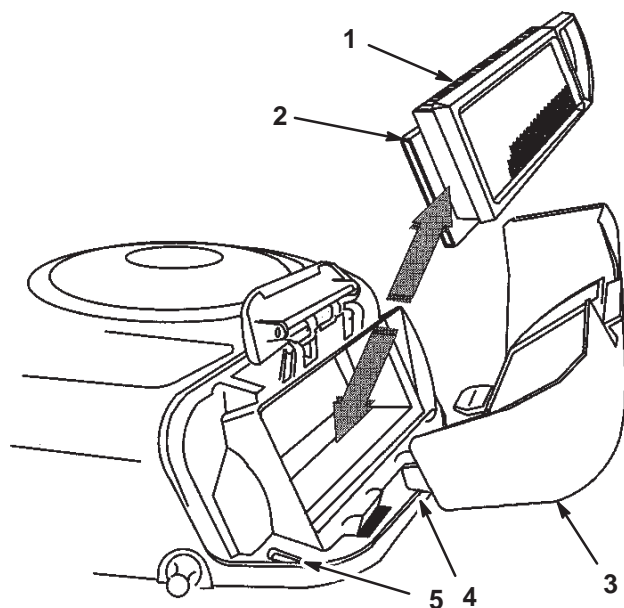

Figure 21
3. Carefully slide the paper element and foam element from the blower housing (Fig. 21).
2. Align the tabs on the air cleaner cover with the slots of the blower housing (Fig. 21). Hook the handle onto the cover and press down on the handle to lock the cover in place.